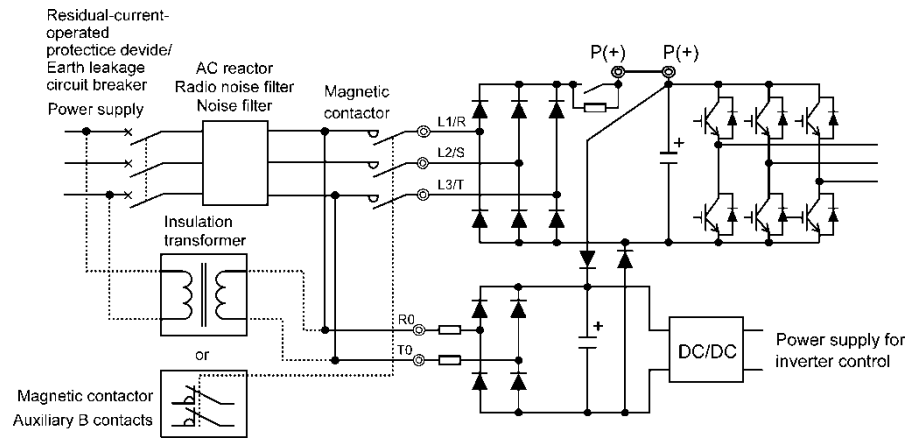

Figure 5.4 Connection Example of residual-current-operated protective device (RCD)/ Earth Leakage Circuit Breaker (ELCB)
- When introducing a residual-current-operated protective device (RCD)/earth leakage circuit breaker (ELCB), connect its output (secondary) side to terminals R0 and T0. Connecting its input (primary) side to those terminals causes the RCD/ELCB to malfunction since the input power voltage to the inverter is three-phase but the one to terminals R0 and T0 is single-phase. To avoid such problems, be sure to insert an insulation transformer or auxiliary B contacts of a magnetic contactor in the location shown in Figure 5.4.